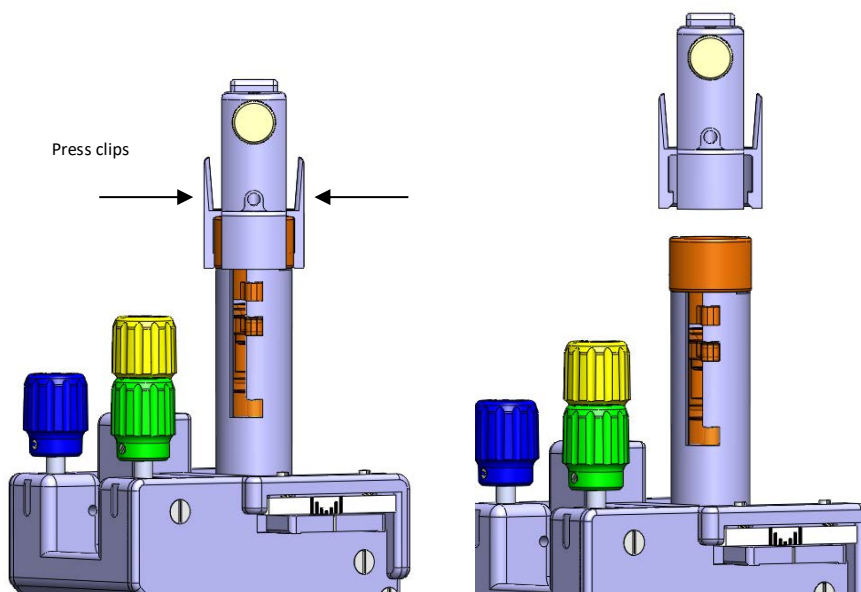

Figure 25: Removing the Dock and Lock
4. Remove the Dock and Device Lock Assembly by squeezing the clips to separate it from the SMARTFrame. **See Figure 25.**